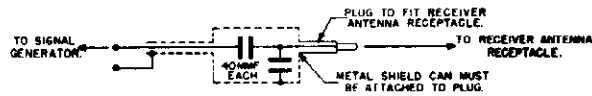

FIGURE 1. DUMMY ANTENNA
5. A dummy antenna for RF alignment. Construct dummy antenna as shown in Figure 1.